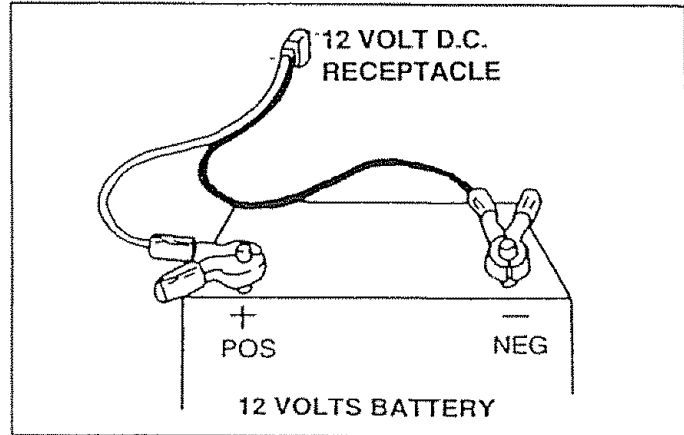

FIG. 9
- Connect battery charge cable connector plug to panel receptacle (Fig. 9). identified by the words "12-VOLT D.C."